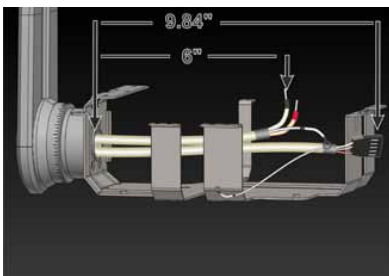

Figure 63
- Insert the cables (scissor arm cables along with scissor arm earthing wire) from the hole of the rotating bush such that it comes out of the L-Clamp as shown in the Figure 63. Ensure that the other end of the Scissor arm earthing wire is already connected firmly to the L arm (near the rotating bush).
- Pull the scissor arm cables such that the length of the communication cable measures 9.84"(approx) from the connector to the surface of the L-Clamp and length of the Inverter power cable measures 6"(approx) from the connector to the surface of the L-Clamp as shown in the Figure 63 using measuring tape.